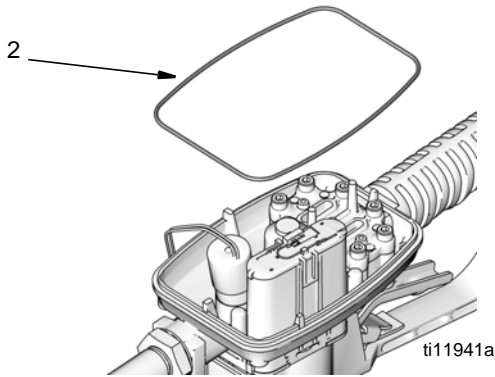

FIG. 6
- Install new o-ring (2) (FIG. 6).